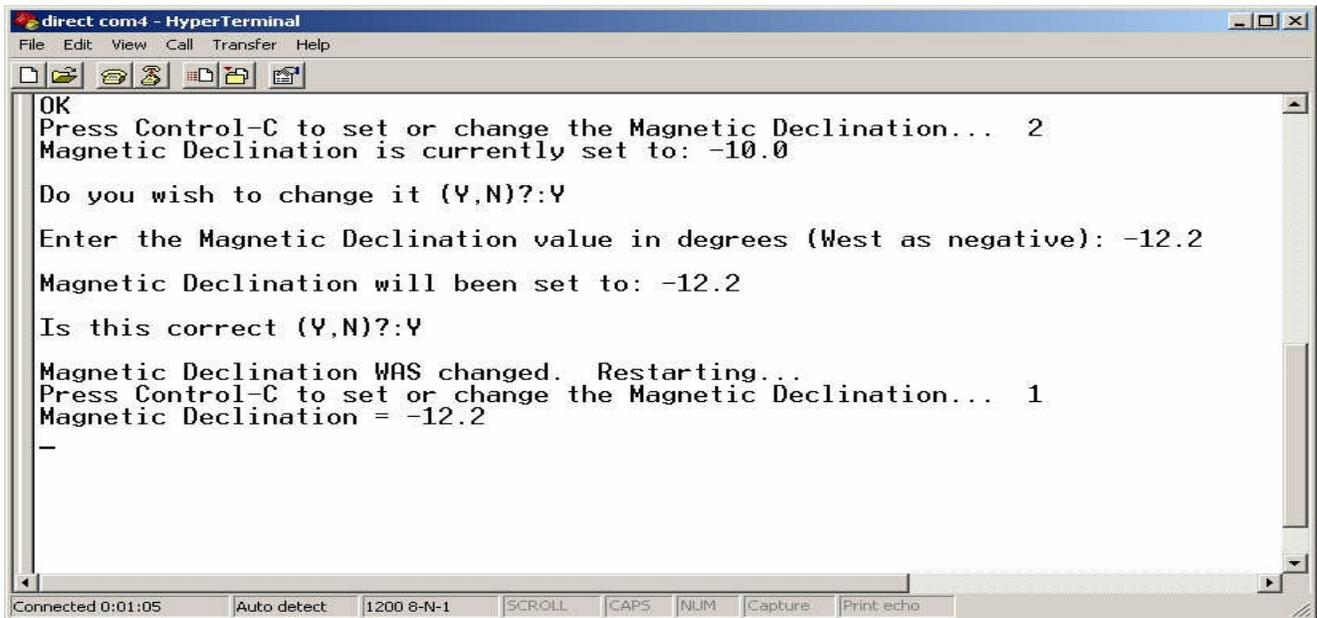

Figure 1
5.2.3 Apply power to the Hazmat Serial Interface and observe the screen on the PC. The declination software tells you the current setting for the declination, and gives you 10 seconds to type CTRL-C (hold the CTRL key down then hit the C key), please refer to Figure 1. This is a screen capture of the declination setting procedure. Once the procedure is completed, the Weather Station will start to output the SAM station data. The declination calibration is complete and the station may be set up in the field. Be sure to remove the power from the Hazmat Serial Interface before moving the station to the field or storing it in the transit case.